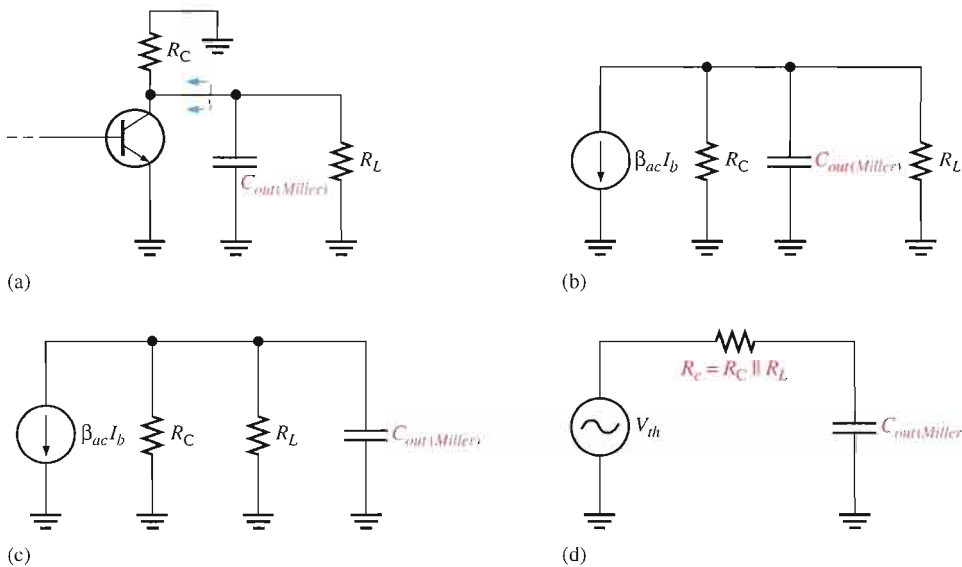

FIGURE 10–33
The resulting high-frequency input RC circuit is shown in Figure 10–32. The critical frequency is
► **FIGURE 10–32**
High-frequency equivalent input RC circuit for the amplifier in Figure 10–31.
Determine the input RC circuit for Figure 10–31 and find its critical frequency if a transistor with the following specifications is used: $\beta_{ac} = 75$, $C_{be} = 15 \text{ pF}$, $C_{bc} = 2 \text{ pF}$.
The Output RC Circuit The high-frequency output RC circuit is formed by the Miller output capacitance and the resistance looking in at the collector, as shown in Figure 10–33(a). In determining the output resistance, the transistor is treated as a current source (open) and
one end of R_C is effectively ac ground, as shown in Figure 10–33(b). By rearranging the position of the capacitance in the diagram and thevenizing the circuit to the left, as shown in Figure 10–33(c), you get the equivalent circuit in Figure 10–33(d). The equivalent output RC circuit consists of a resistance equal to R_C and R_L in parallel in series with a capacitance that is determined by the following Miller formula:
Determine the critical frequency of the amplifier in Example 10–10 (Figure 10–31) due to its output RC circuit.
The equivalent output RC circuit is shown in Figure 10–34. Determine the critical frequency as follows ($C_{out(Miller)} \cong C_{bc}$):
► FIGURE 10–34
Figure 10–35(a) shows a JFET common-source amplifier that will be used to illustrate high-frequency analysis. A high-frequency equivalent circuit for the amplifier is shown in Figure 10–35(b). Notice that the coupling and bypass capacitors are assumed to have negligible reactances and are considered to be shorts. The internal capacitances C_{gs} and C_{gd} appear in the equivalent circuit because their reactances are significant at high frequencies.